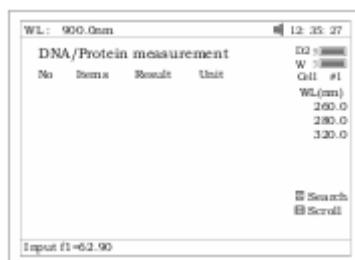

Fig.61
1. To use a simpler or different algorithm, you can enter your values for f1- f4. Press **【F1】** to set f1-f4. Input the value by pressing the numeric keypad (Fig 61).